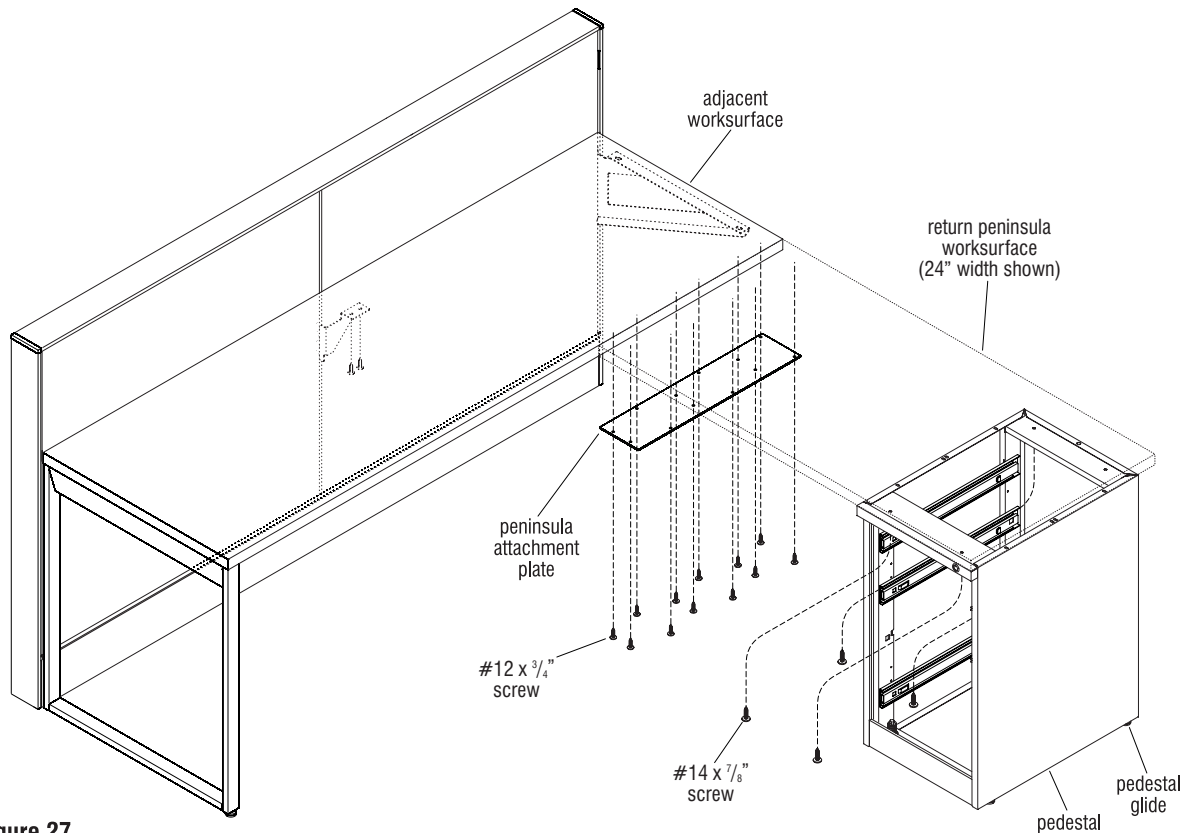

Figure 27
1. Place a peninsula attachment plate under the adjacent worksurface. Center the plate from side-to-side and position the overhang of the plate allowing 2 1/2" for attachment of the peninsula worksurface (Figure 27). Using a pen and the properly positioned attachment plate as a template, mark the center of all attachment hole locations to the underside of the adjacent surface. Remove the plate, and using a drill with 1/8" diameter drill bit, carefully
pre-drill mounting holes to only 1/2" depth in underside of adjacent worksurface. Take care to not drill too deep (Figure 27).
2. Replace the attachment plate over the pre-drilled holes and secure plate to underside of adjacent worksurface using #12 x 3/4" screws. Take care to not over-tighten screws (Figure 27).
Set peninsula worksurface onto pedestal and peninsula attachment plate. Adjust glides on pedestal to level the worksurface and center the worksurface on attachment plate making sure worksurface edges are tight. Take care to not drop or damage the worksurface. Using the attachment plate as a template, pre-drill 1/8" diameter mounting holes to only 1/2" depth in underside of peninsula surface. Take care to not drill too deep (Figure 27).
4. Secure splice plate to peninsula worksurface using #12 x 3/4" screws. Take care not to over-tighten screws (Figure 27).
5. To attach pedestal to underside of worksurface, first align pre-drilled holes of worksurface with mounting holes of pedestal. Check that the front and side of the pedestal is flush with the edges of the worksurface and secure using four #14 x 7/8" screws as illustrated (Figure 27).